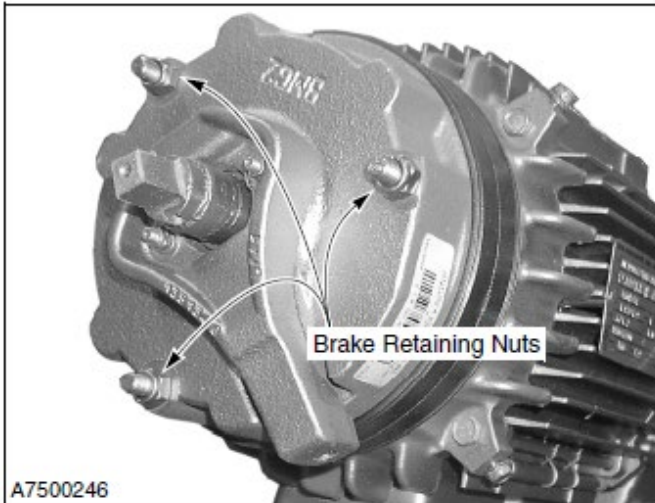
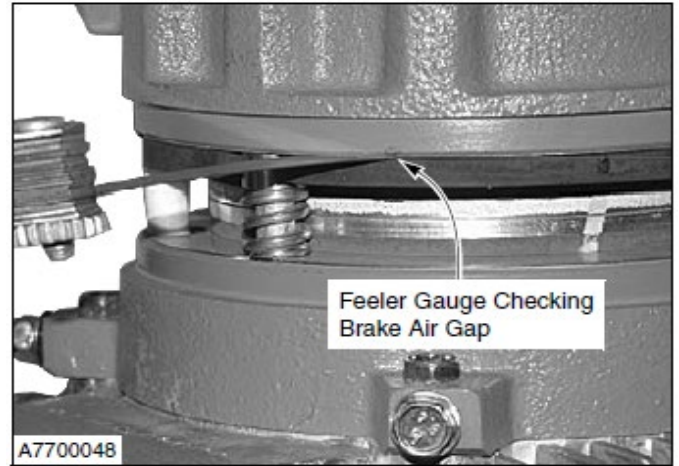

Figure 51
Figure 52
4. Using a feeler gauge and a nut driver, adjust the retaining nuts until you achieve the proper air gap (0.010–0.024-in.). (See Figure 51 and Figure 52)